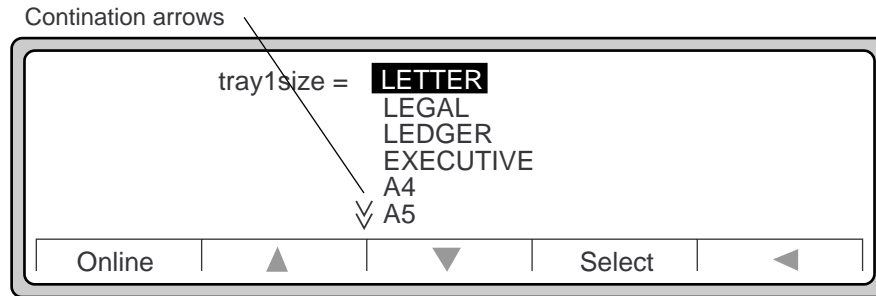

Figure 3-15 Paper size selections
3. Press **▶** to get a list of paper sizes for this tray, as shown in Figure 3-15.